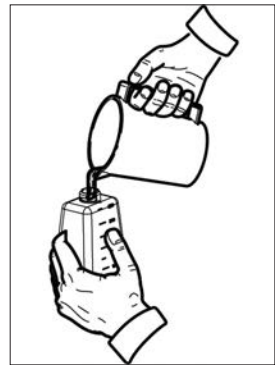

Fig.14
- When using the high-pressure detergent bottle, fill it with a properly formulated detergent or cleaner with a water ratio according to instructions on the container (Fig.14)